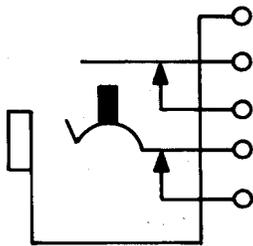

Fig. 3—217-Type Jack
2.03 217A, C, and E: These single-mounted jacks (Fig. 3) are used with 1D, 1E, 153, 209, 241, 305, 327, 328, 347, 373, and 464 plugs. These jacks are heavily insulated. They are arranged for use with the 347 and similar-type plugs. These jacks are mounted with the springs in a vertical plane. The terminal of the tip spring and terminal of the spring, which makes contact with it, is arranged to accommodate two No. 16B and S gauge wires.